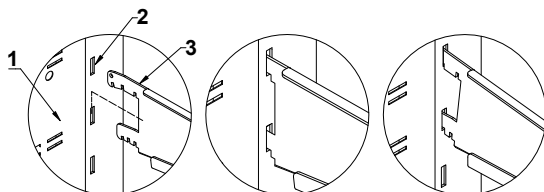

Fig.3 Mounting the hook in the rack frame
1. Mount the hooks in rack strips Fig. 3 (p.12)